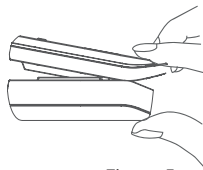

Figure 5
1. Install batteries in accordance with item 6. Battery installation.
2. Open the oximeter as shown in Fig 5.